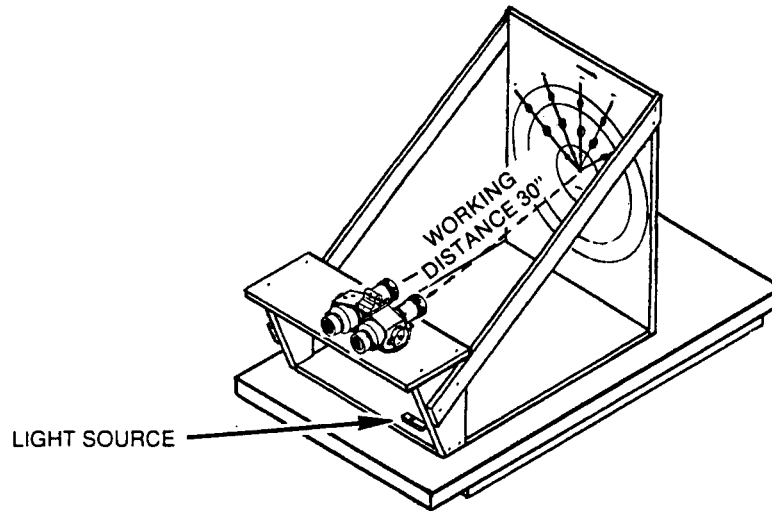

Figure 2-6. Dark Room Setup with GM-6(V)1 Shown on Test Fixture.
- a. With lights on, set up your dark room as shown in Figures 2-6 or 2-7.